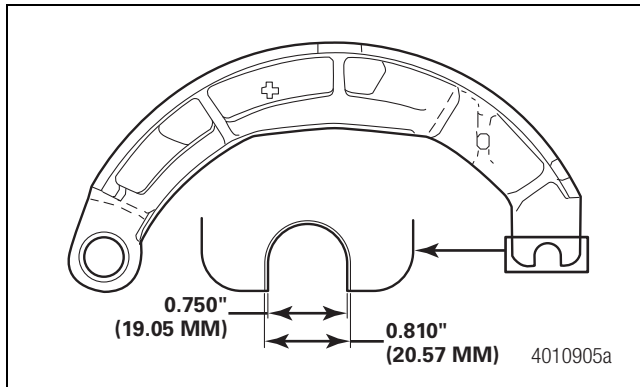

Figure 4.10
9. Check the brake shoe roller pocket for excess wear. Cast+ shoes manufactured after 2009 include a wear indicator detail cast into the shoe. The roller pocket maximum width is 0.810-inch (20.57 mm). Replace any brake shoes that do not meet measurement specifications. Figure 4.10.